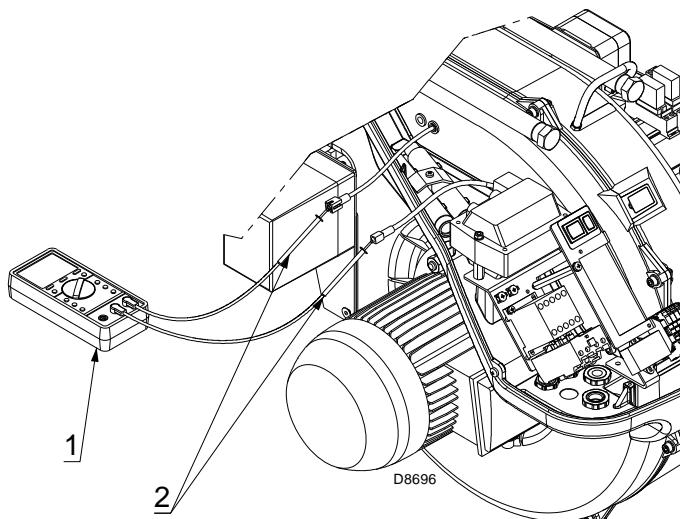

Fig. 35
However, if it is necessary to measure the ionisation current, disconnect the plug-socket (2)(Fig. 35) on the ionisation probe cable and insert a direct current microammeter (1)(Fig. 35) with a base scale of 100 µA.